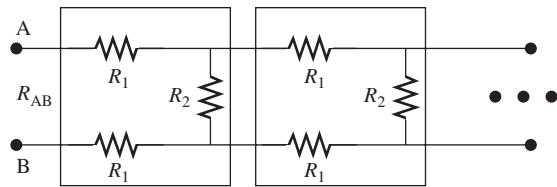

FIGURE P3.14 Circuit for Problem 3.14.
- 3.14 (H)** Find the resistance seen through the terminals A and B (R_{AB}) in Figure P3.14. The circuit in the box repeats infinitely.